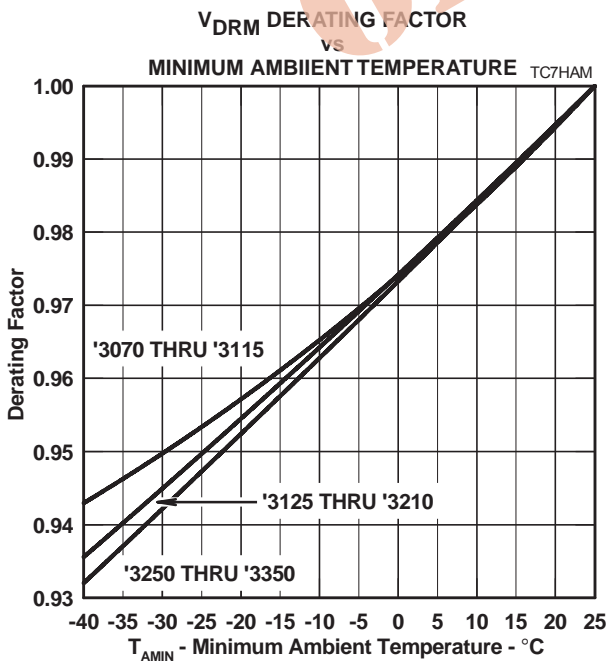

Figure 9.
- NOTES: 1. See Figure 9 for voltage values at lower temperatures.
The protector should not clip or limit the voltages that occur in normal system operation. For unusual conditions, such as ringing without the line connected, some degree of clipping is permissible. Under this condition, about 10 V of clipping is normally possible without activating the ring trip circuit. Figure 9 allows the calculation of the protector V_{DRM} value at temperatures below 25 °C. The calculated value should not be less than the maximum normal system voltages. The TISP3290H3, with a V_{DRM} of 220 V, can be used for the protection of ring generators producing 105 V rms of ring on a battery voltage of -58 V. The peak ring voltage will be $58 + 1.414 \times 105 = 206.5$ V. However, this is the open circuit voltage and the connection of the line and its equipment will reduce the peak voltage.
For the extreme case of an unconnected line, the temperature at which clipping begins can be calculated using the data from Figure 9. To possibly clip, the V_{DRM} value has to be 206.5 V. This is a reduction of the 220 V 25 °C V_{DRM} value by a factor of $206.5/220 = 0.94$. Figure 9 shows that a 0.94 reduction will occur at an ambient temperature of -32 °C. In this example, the TISP3290H3 will allow normal equipment operation, even on an open-circuit line, provided that the minimum expected ambient temperature does not fall below -32 °C.